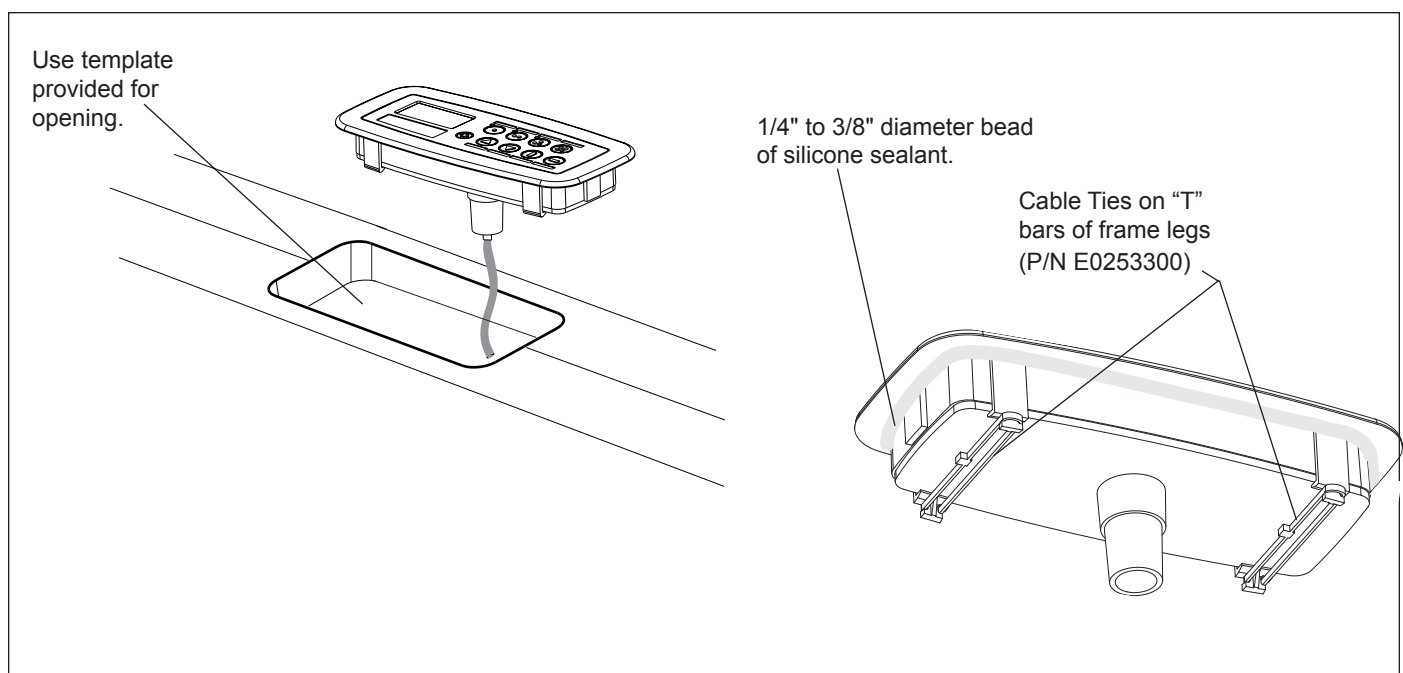

Figure 3. Flush Mount Installation on a Wood Deck
4. Apply a 1/4" to 3/8" diameter bead of silicone sealant all around the part at the corner shown below in Figure 3. Position the SpaLink RS within the opening and temporarily tape the SpaLink RS control to the correct position. Allow 24 hours for the sealant to cure.